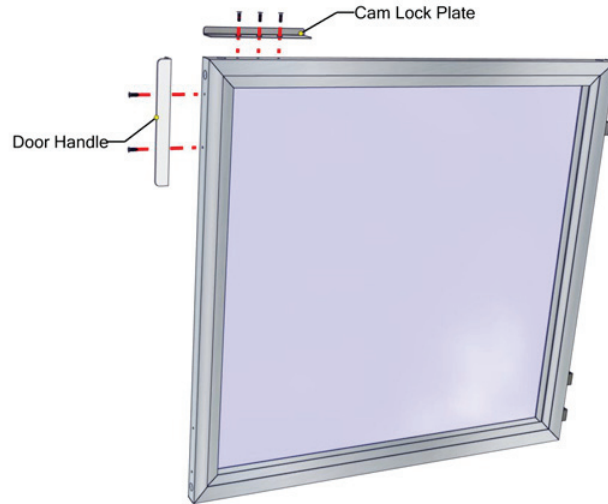

Fig. 47: Remove Cam Lock and Handle
3. Unscrew the Door Handle and Cam Lock Plate from their present position and move them to the other side of the door. Make sure to "mirror" the Cam Lock Plate so that its top flange will be flush against the warming cabinet when the door is re-installed in its new position (Fig. 47).